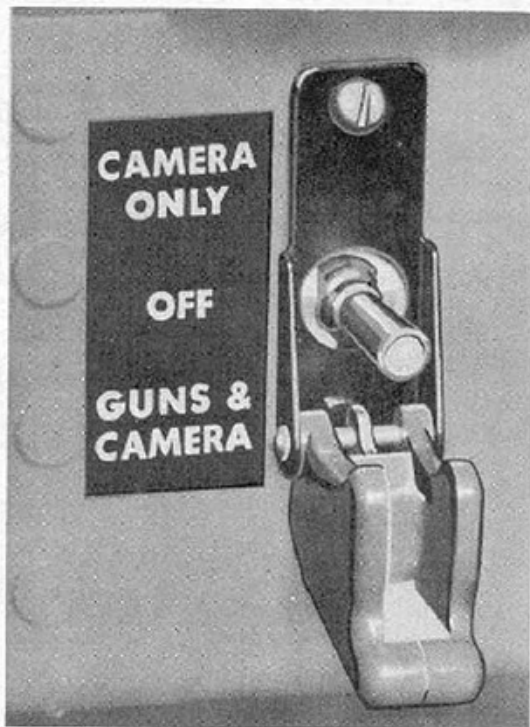

Figure 47—Gun Safety Switch
c. GUN OPERATION.—Since the guns have been previously loaded and charged on the ground, they are ready to fire immediately when the safety switches, installed on the left wall of the cockpit and on the main switch box, are turned "ON." (See figure 47.)
A camera is installed in the leading edge of the wing which operates in conjunction with the guns. It is controlled by a switch (figure 47) in the cockpit. The camera may be operated alone or with the guns depending on the position of the switch.